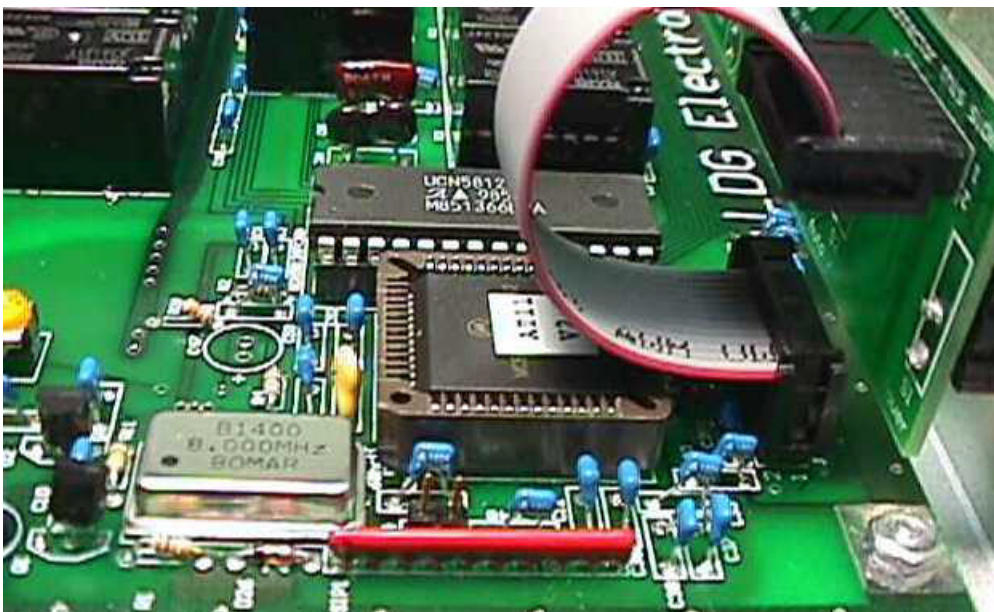

Figure 4 Ribbon cable and U1
- ___ Install the ribbon cable with the red stripe connecting pin 1 of J3 to pin 1 on the 2 x 7 header on the front panel. See Figure 4.
- ___ Set R9 and R10 to the center position. See Figure 4 below.